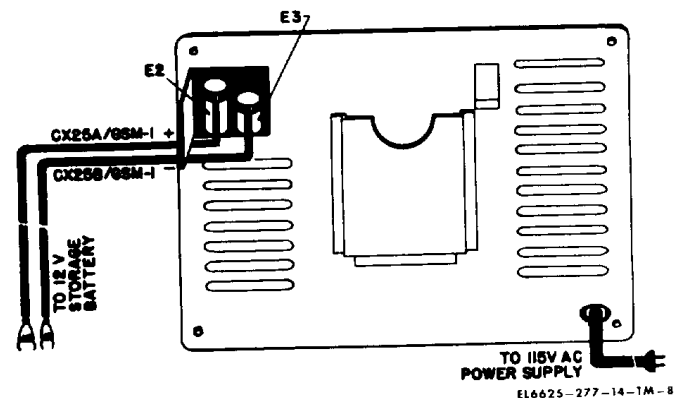

Figure 2-2. Battery and ac power supply connections, TS-682/GSM-1.
b. Connect the 12-volt storage battery or power supply to the binding posts just inside the door on the rear panel of the meter test set (fig. 2-2 or 2-3). Connect the spade-type terminal of Cord CX-25A/GSM-1 (positive) to the positive (+) binding post; connect the battery clip to the positive battery or power supply terminal. Connect the spade-type terminal of Cord CX-25B/GSM-1 (negative) to the negative (-) binding post; connect the battery clip to the negative battery or power supply terminal.